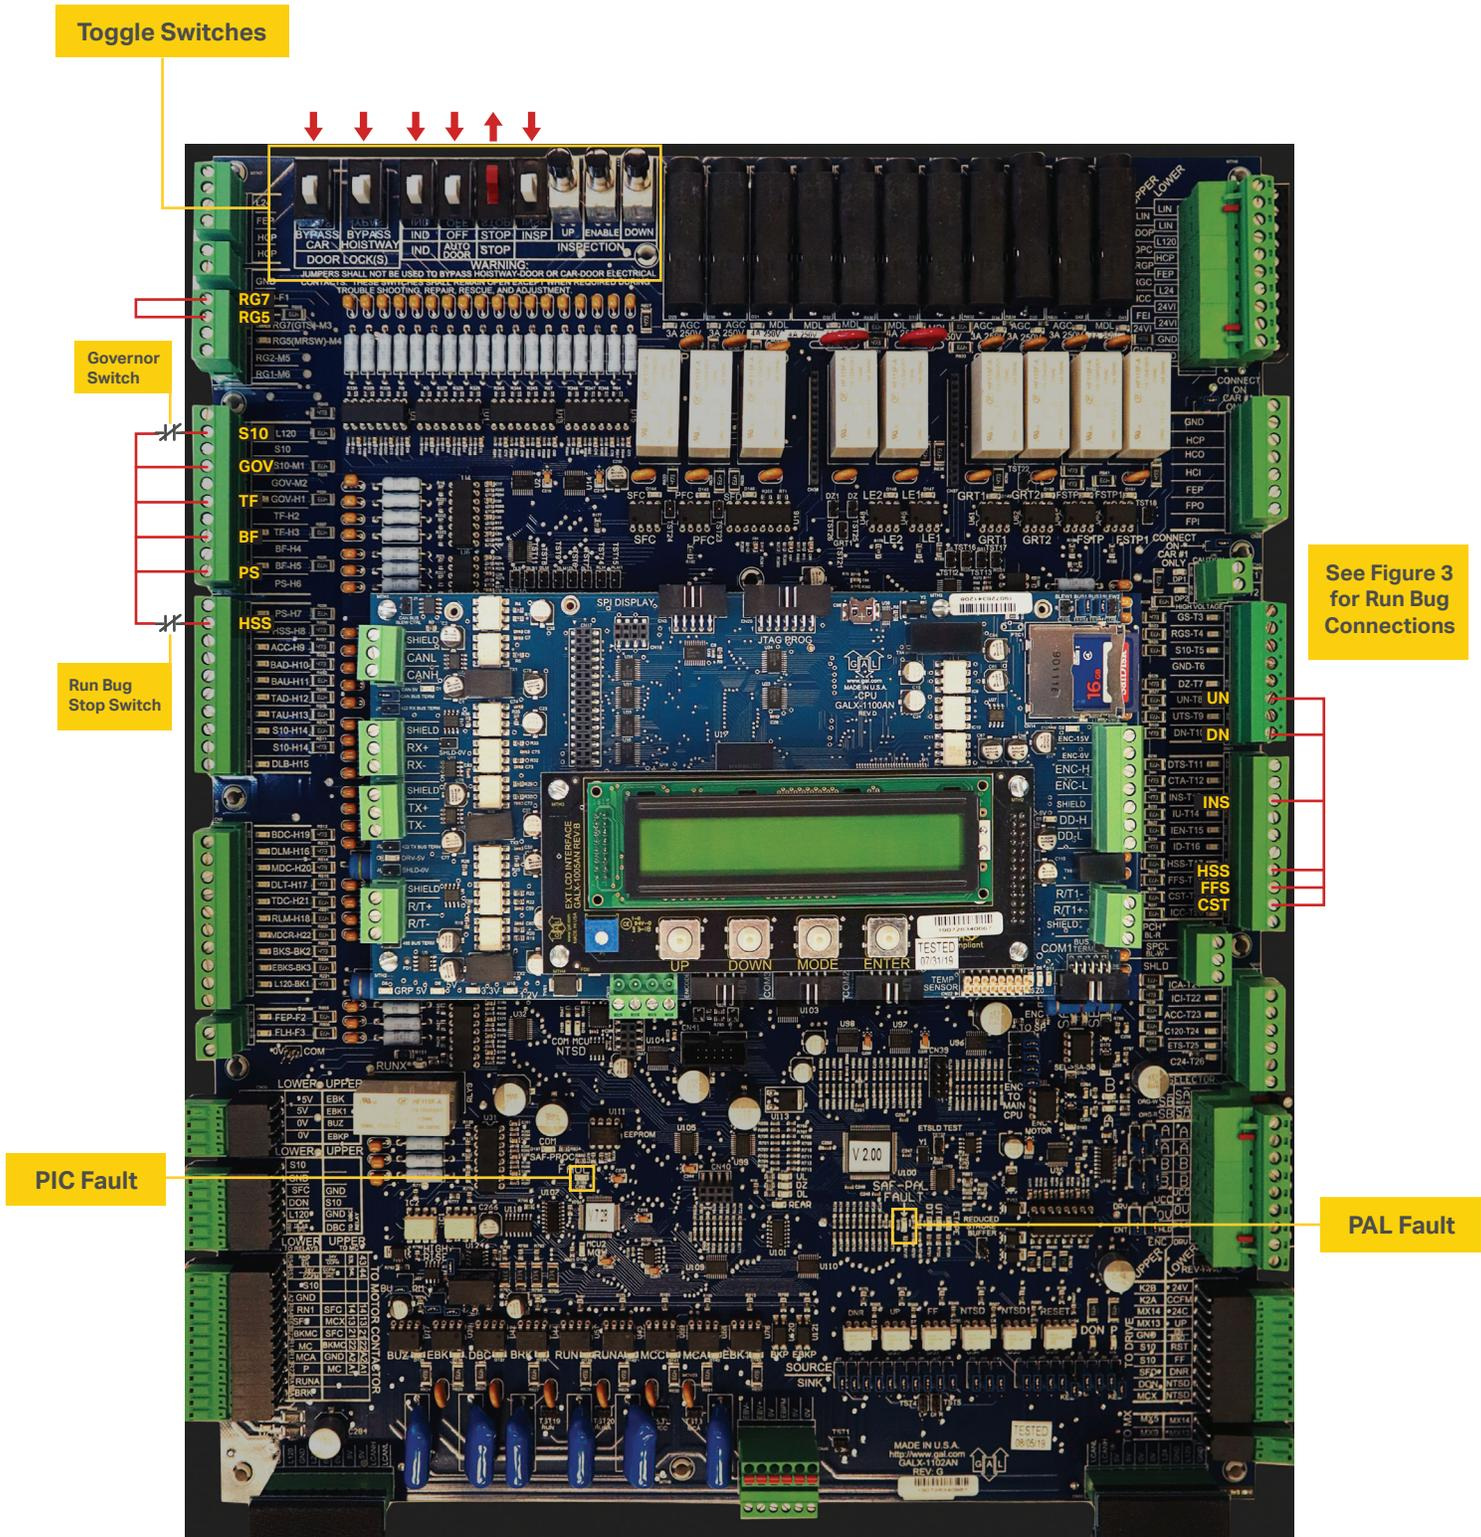

Figure 4: GALX-1102AN Main I/O Board
- Set the toggles switches on the GALX-1102 Main I/O Board as shown in **Figure 4**.
- Verify the PIC and PAL fault LED's are off. See the GALX-1102AN Main I/O Board in **Figure 4**. If these LED's are on, refer to the GALaxy IV adjustment manual for possible causes of these faults.
with Run Bug. See Figure 4